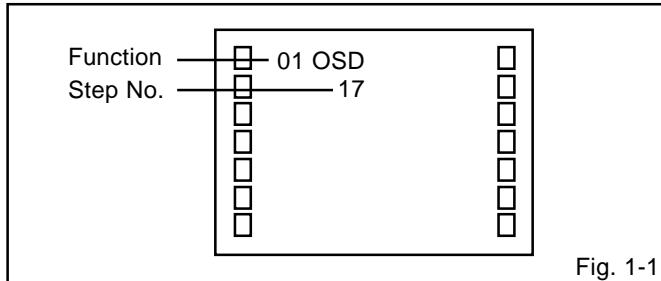

Fig. 1-1
2. Press the VOL. DOWN button on the set and the Channel button (9) on the remote control for more than 2 seconds to appear the adjustment mode on the screen as shown in **Fig. 1-1**.
5. Activate the adjustment mode display of **Fig. 1-1** and press the channel button (02) on the remote control to select "CUT OFF".
4. Activate the adjustment mode display of **Fig. 1-1** and press the channel button **(07)** on the remote control to select "R DRIVE".
3. Activate the adjustment mode display of **Fig. 1-1** and press the channel button **(04)** on the remote control to select "HPHA".
3. Activate the adjustment mode display of **Fig. 1-1** and press the channel button **(06)** on the remote control to select "VSHI".
3. Activate the adjustment mode display of **Fig. 1-1** and press the channel button **(05)** on the remote control to select "VSIZ".
3. Activate the adjustment mode display of **Fig. 1-1** and press the channel button **(12)** on the remote control to select "BRTC".
8. Activate the adjustment mode display of **Fig. 1-1** and press the channel button **(23)** on the remote control to select "BRTCA".
11. Activate the adjustment mode display of **Fig. 1-1** and press the channel button **(34)** on the remote control to select "BRTCD".
14. Activate the adjustment mode display of **Fig. 1-1** and press the channel button **(45)** on the remote control to select "BRTCG".
1. Activate the adjustment mode display of **Fig. 1-1**.